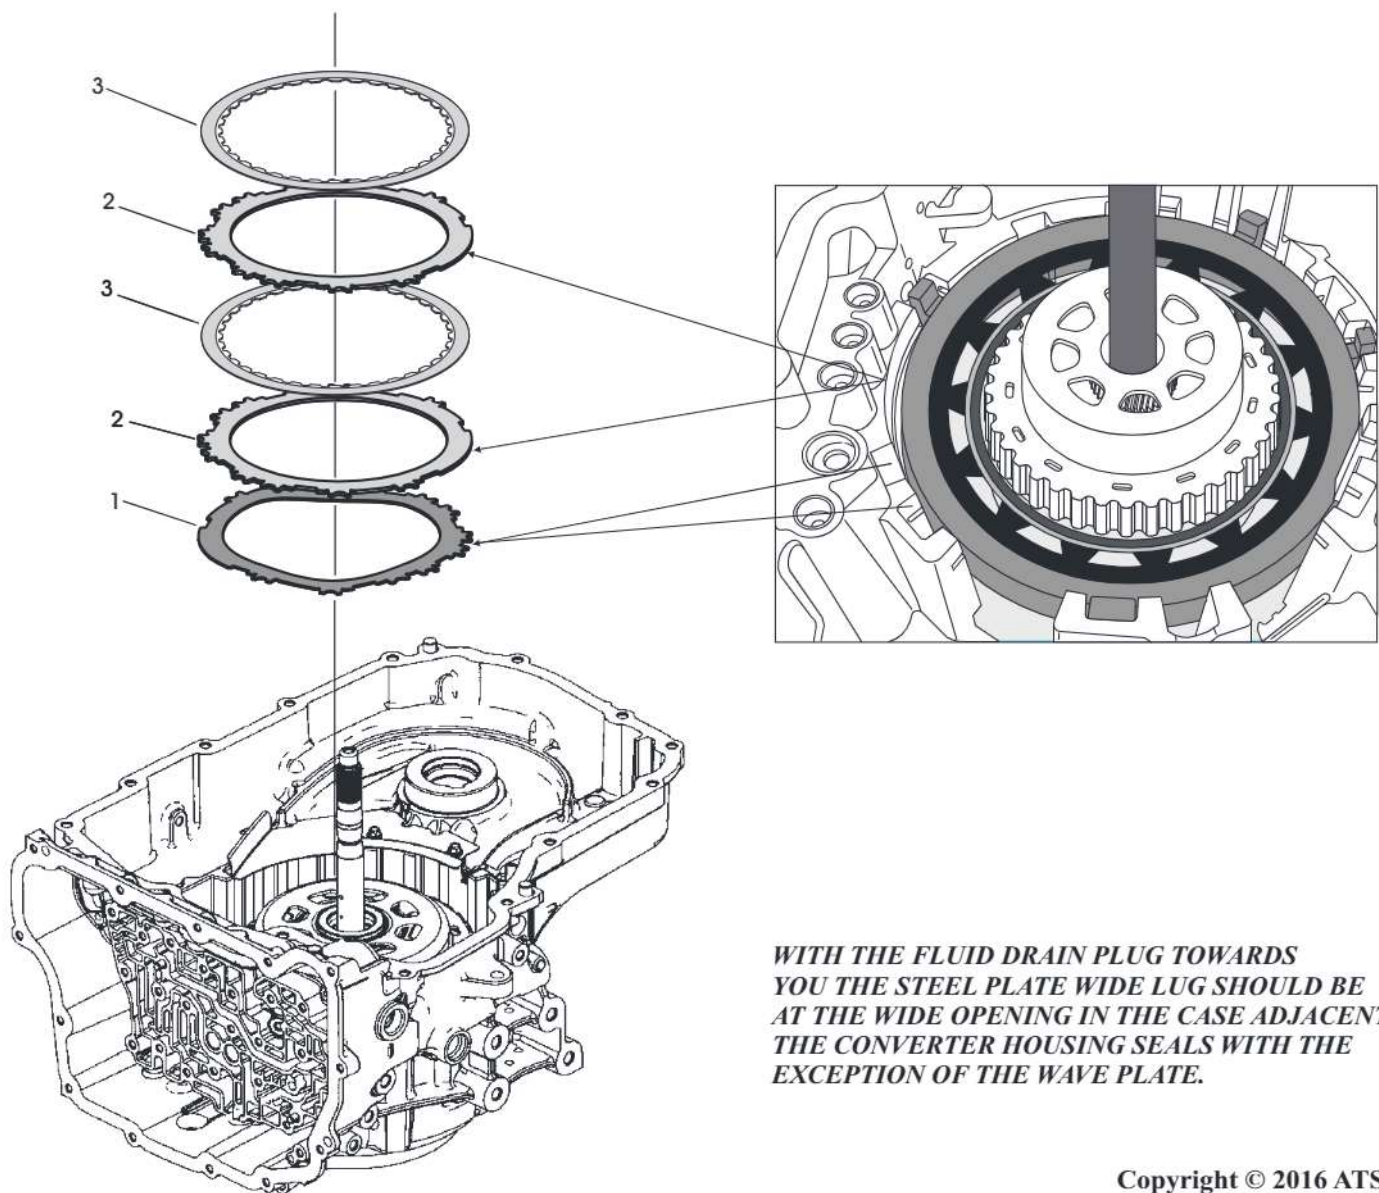

Figure 161
62. Install the 1-2-3-4 clutch wave plate as seen in Figure 161.
63. Load the 1-2-3-4 clutch pack by installing a steel plate followed by alternating friction and steel plates until two steel plates and two friction plates have been installed as seen in Figure 161.
Note: Be certain to install all 1-2-3-4 steel and friction plates with the wide lug to the wide opening in the case which faces the valve body end as shown in Figure 161.